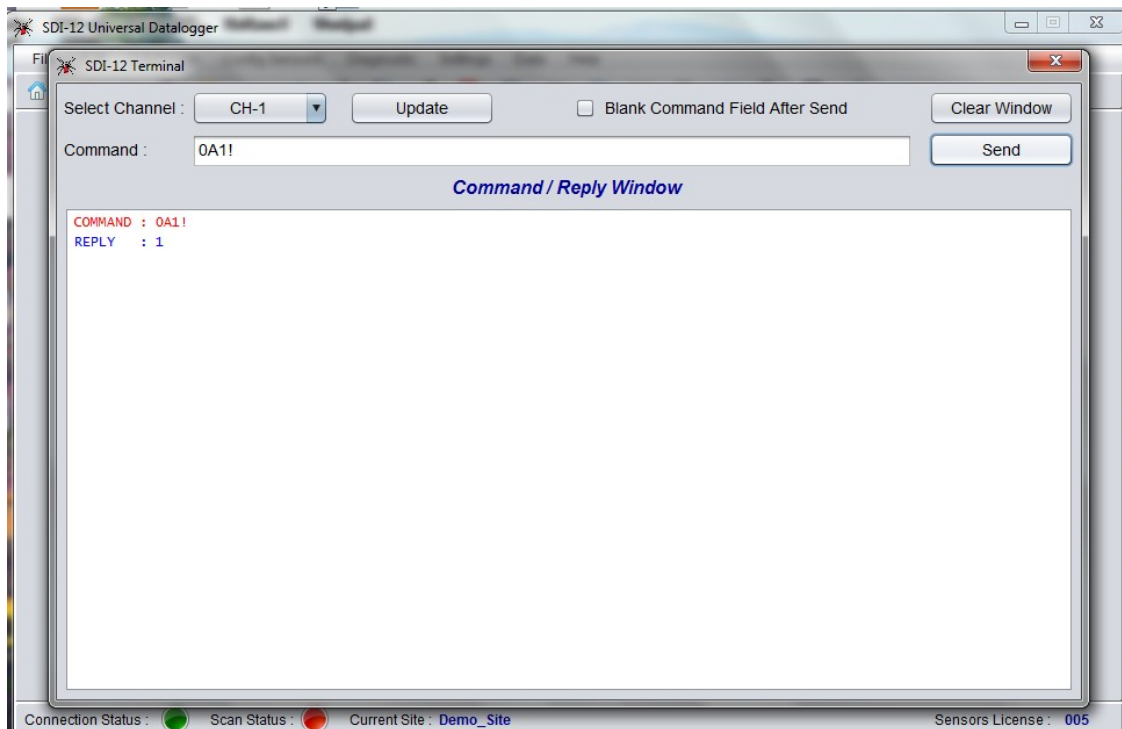

Figure 27: Command/Reply Window showing change in address
- 10 To change the sensor address, type "oldaddr A newaddr !" then click "Send" as shown in figure 27 below. Now connect other sensors to the datalogger one by one and repeat the same procedure.